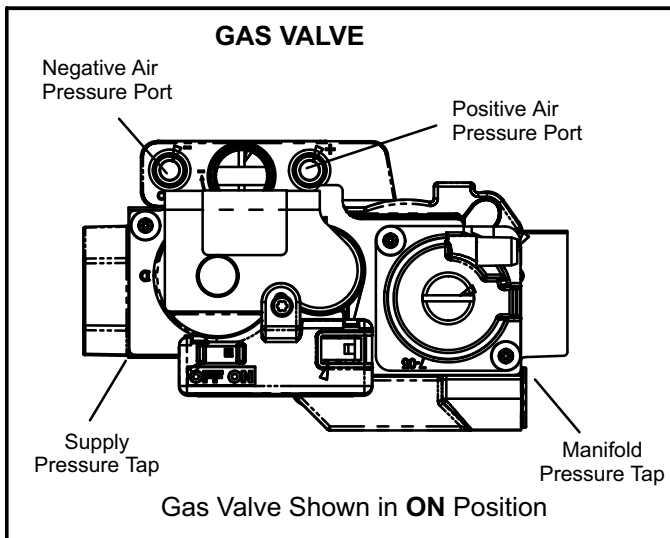

FIGURE 18
- 6 - Move gas valve switch to **OFF position**. Do not force. See figure 18.
- 8 - Move gas valve switch to **ON position**. Do not force. See figure 18.
- 4 - Move gas valve switch to **OFF position**. Do not force. See figure 18.
A port on the inlet side of the gas valve provides access to the supply pressure tap. See figure 18. Loosen the screw and connect a manometer to measure supply pressure. See table 11 for supply line pressure. Tighten screw after measurements have been taken.
- 2 - Remove the threaded plug from the outlet side of the gas valve and install a field-provided barbed fitting. Connect measuring device positive "+" to barbed fitting to measure manifold pressure. See figure 18 for manifold location.